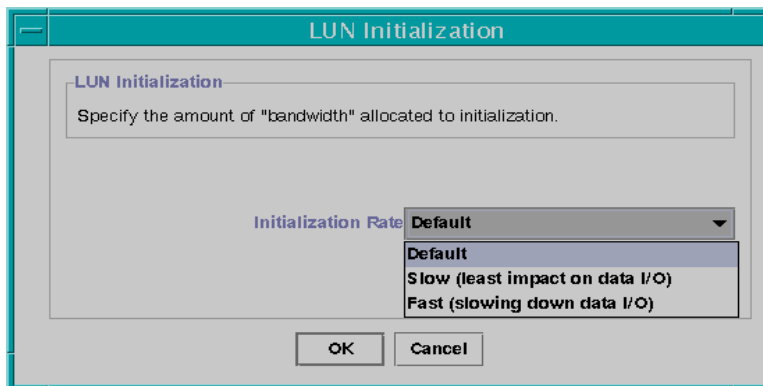

FIGURE 3-17 LUN Initialization Rate Window
4. Set LUN Initialization rate by selecting the speed from the pull-down menu shown in FIGURE 3-17.